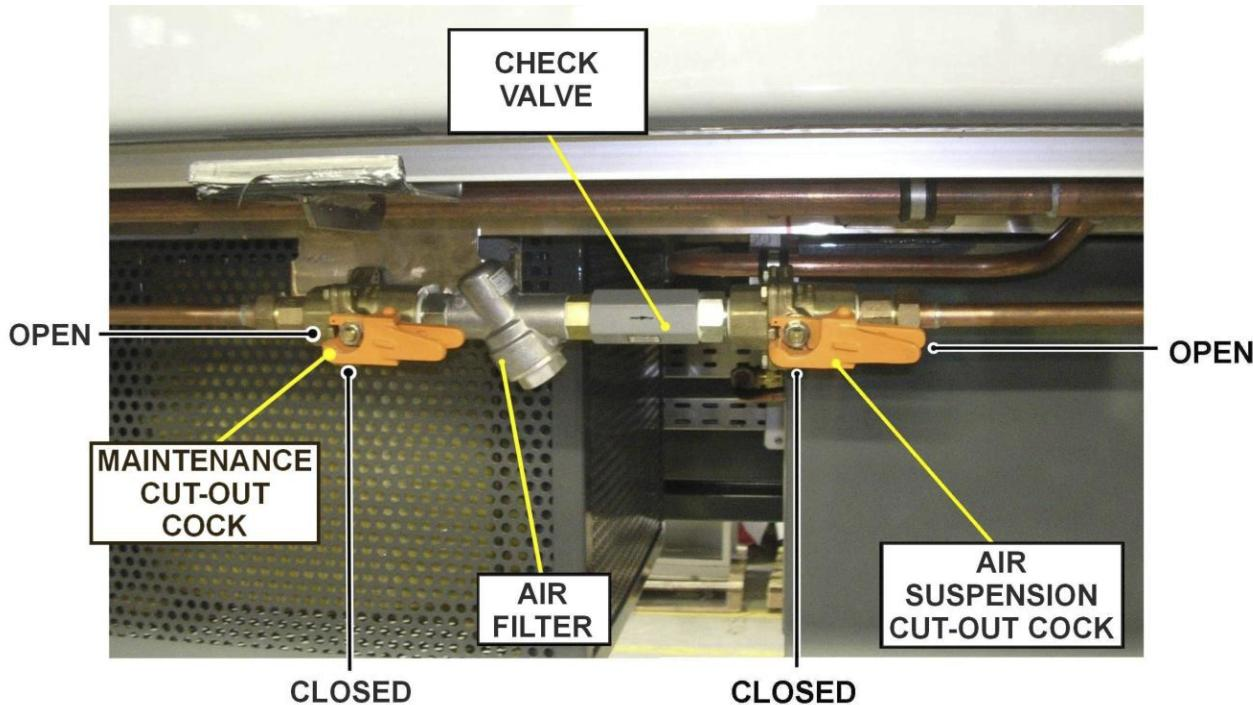

Figure 1 - SUSPENSION MAINTENANCE CUTOUT COCK
9. Vent pneumatic pressure from Air Piping by closing the Air Suspension Cut Out Cock (Refer to Figure 1).
5. Connect the Duplex Check Valve (1) to the pipeline by means of Adapters (5).
6. Pressurize Air Piping by opening Air Suspension Cut Out Cock (Refer to Figure 1).